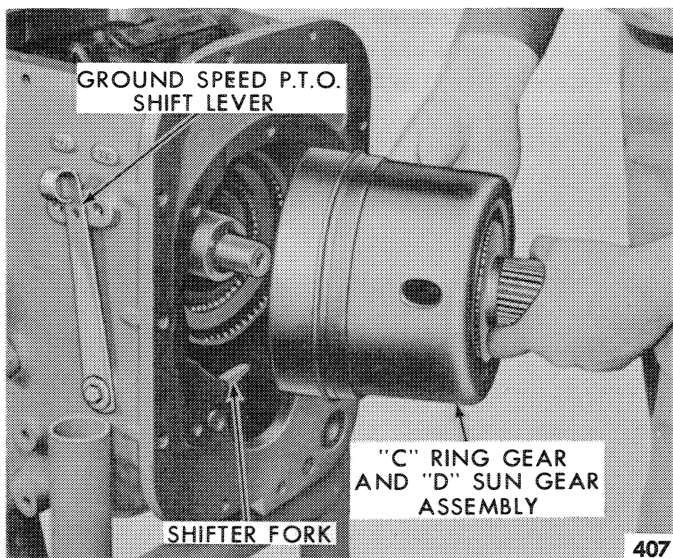

Figure 86—Removing the "C" Ring Gear and "D" Sun Gear
4. Move the ground speed P.T.O. shift lever as required to locate the drive collar shifter fork in its lower position, as shown in Figure 86. Remove the "C" ring gear "D" sun gear assembly as shown in Figure 86.